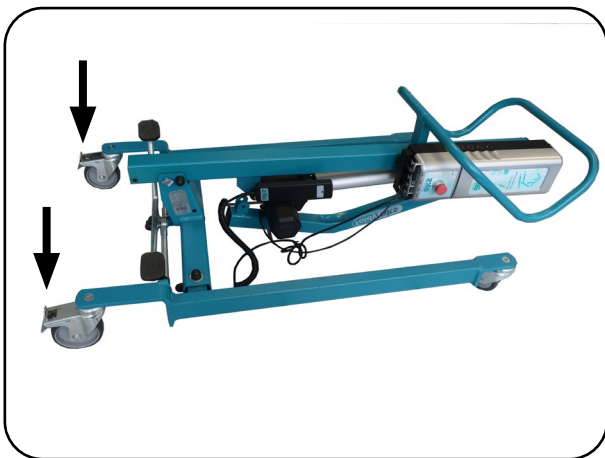

Fig. 6.2.01 – Chassis with braked castors
2. Place the chassis with the castors on the floor (Fig. 6.2.01).
3. Brake the two rear castors on the operator side by activating the foot lever (Fig. 6.2.01); see chapter on Operation, section **Castors**.
14. Release the brakes on the two rear castors on the operator side by activating the foot lever (Fig. 6.2.01); see chapter on Operation, section **Castors**.